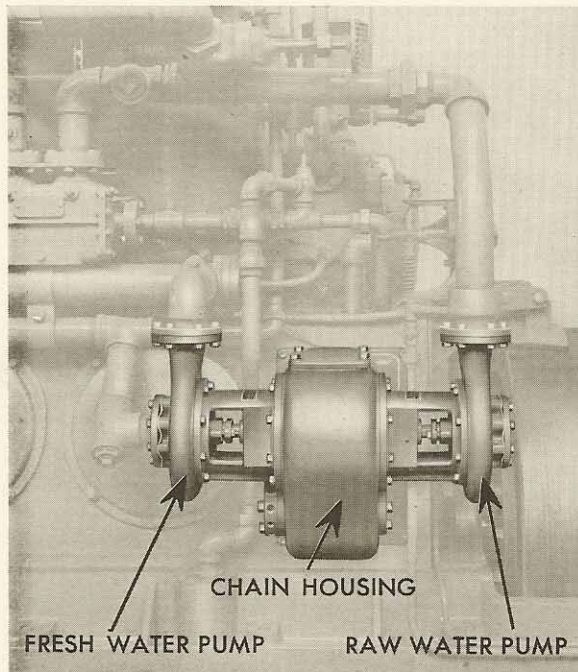

FIGURE 22-5
14. CENTRIFUGAL PUMPS: Certain engines, when equipped with fresh-water cooling and a heat exchanger, use this type of pump. Figure 22-5 shows how these pumps are installed on the engine. One pump circulates the jacket cooling water and the other passes sea water through the heat exchanger.